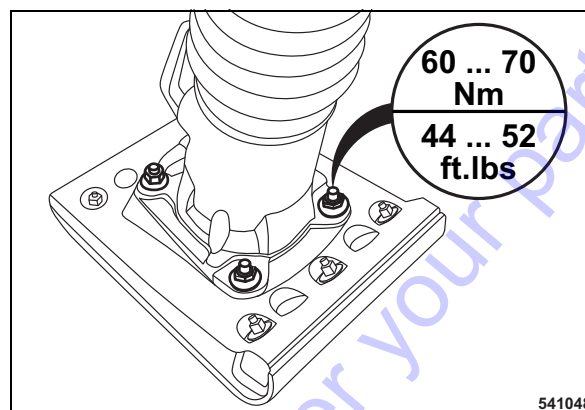

Fig. 30
- Fasten the new tamper foot plate with 4 fastening screws (tightening torque 60 to 70 Nm (44 bis 52 ft.lbs)) to the tamper foot (Fig. 30).